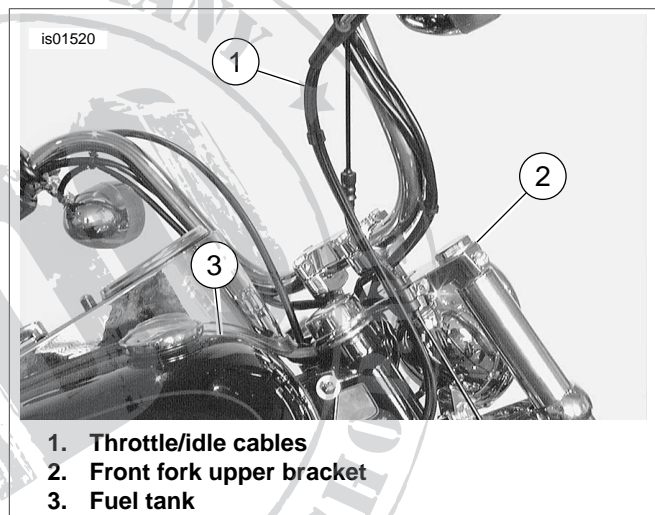

Figure 9. Cable Routing (1996 - 2005 FXDWG, 2006 and Later Dyna Models)
- 1996-2005 FXDWG Models:** See Figure 9. Route throttle and idle cables behind the front fork upper bracket, then under right side of tank to carburetor/induction module.
- 2006-Later FXDi, FXDCi, FXDBi, FXD35, FXDWGi:** See Figure 9. Route throttle and idle cables behind the front fork upper bracket, then under the right side of tank to the induction module.